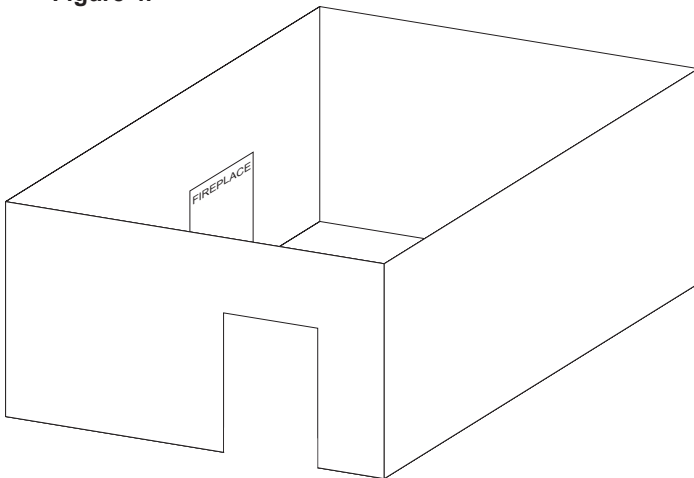

Figure 4
- With walls on all sides, but with no overhead cover. **See Figure 4.**